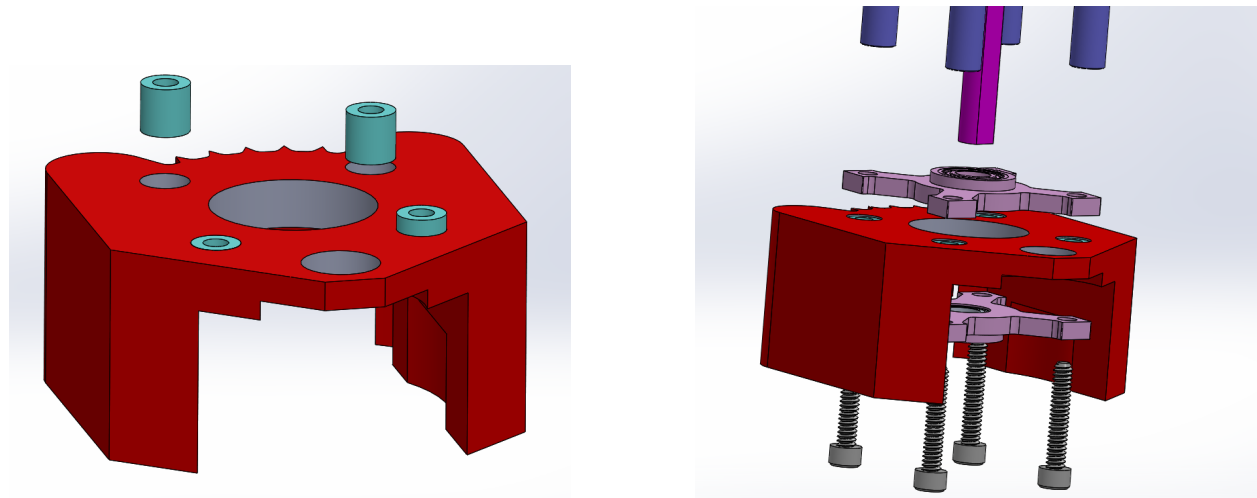

Figure 4: Corner Steering Step 3
3. **Encoder Mount:** Press the 0.25inch Spacers **T1** into the 3D printed encoder mount **S31**. If they do not fit, you can drill or file out the holes slightly until the spacers fit as shown in Figure 4 (The size and tolerance of the holes will vary slightly based on different 3D printers and materials). Attach the encoder mount and bearings to the threaded standoffs **T3** using screws **B5** and 0.25 inch pillow bearing blocks **S10**.